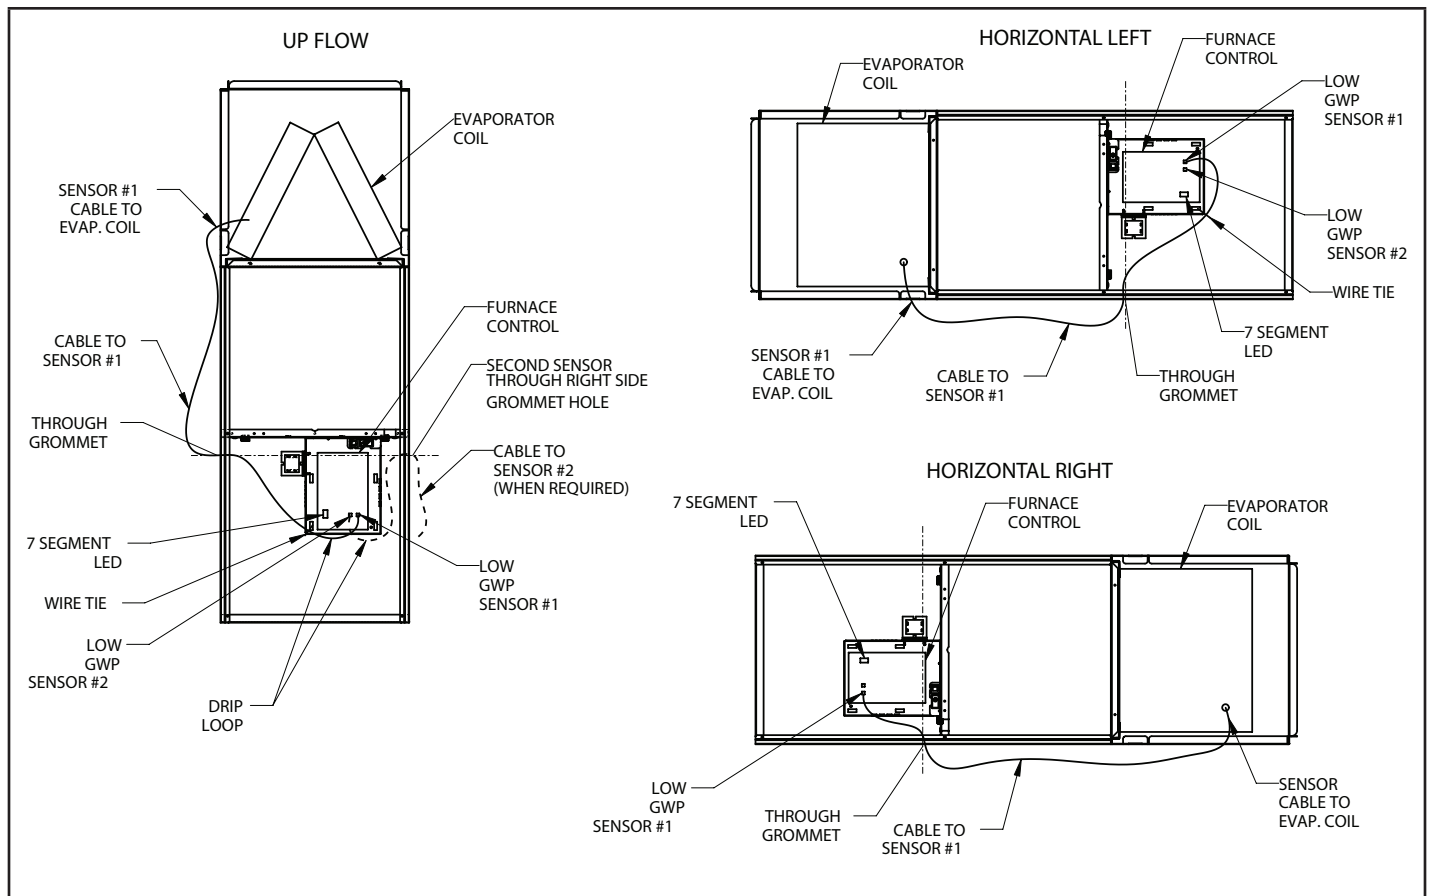

Figure 69
Gas Valve Operation (Figure 69)
- 6 - Move gas valve switch to OFF. See Figure 69.
- 8 - Move gas valve switch to ON. See Figure 69.